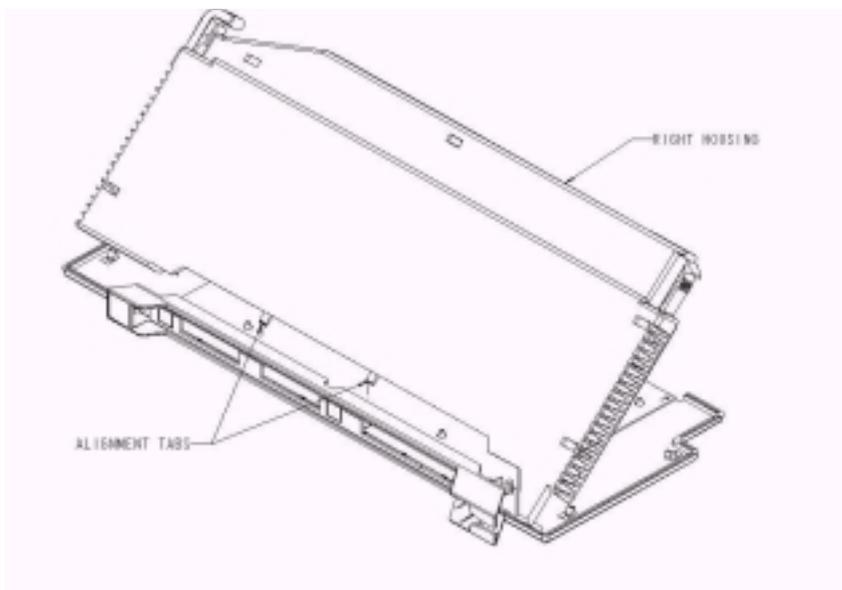

Figure 7-2. Attaching the Right Housing
3. Insert the two alignment tabs on the right housing behind the faceplate (see Figure 7-2).